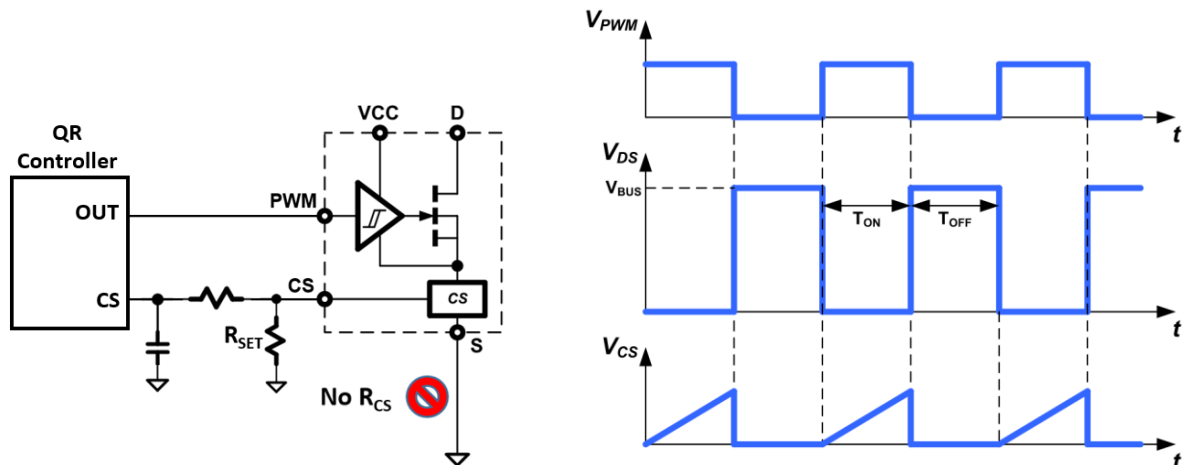

Fig. 26. Current sensing circuit and timing diagram
For many applications it is necessary to sense the cycle-by-cycle current flowing through the power FET. Existing current sensing solutions include placing a current sensing resistor in between the source of the power FET and  $P_{GND}$ . This resistor method increases system conduction power losses, creates a hotspot on the PCB, and lowers overall system efficiency. To eliminate this external resistor and hotspot, and increase system efficiency, this IC includes GaNSense™ Technology for integrated and accurate loss-less current sensing. The current flowing through the internal GaN power FET is sensed internally and then converted to a current at the current sensing output pin (CS). An external resistor ( $R_{SET}$ ) is connected from the CS pin to the S pin and is used to set the amplitude of the CS pin voltage signal (Fig. 26). This allows for the CS pin signal to be programmed to work with different controllers with different current sensing input thresholds.